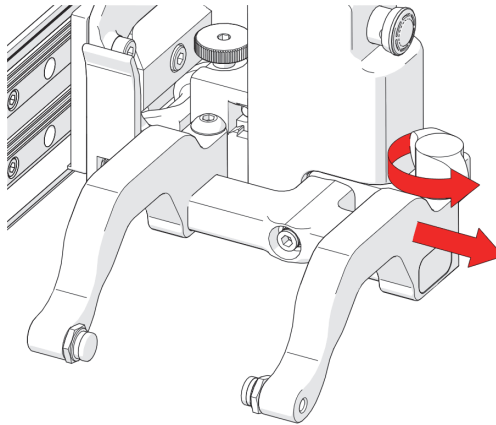

Figure 2-77 Remove outer arm
2. Loosen the probe holder adjustment knob, and remove the outer probe holder arm (see Figure 2-77 on page 108).